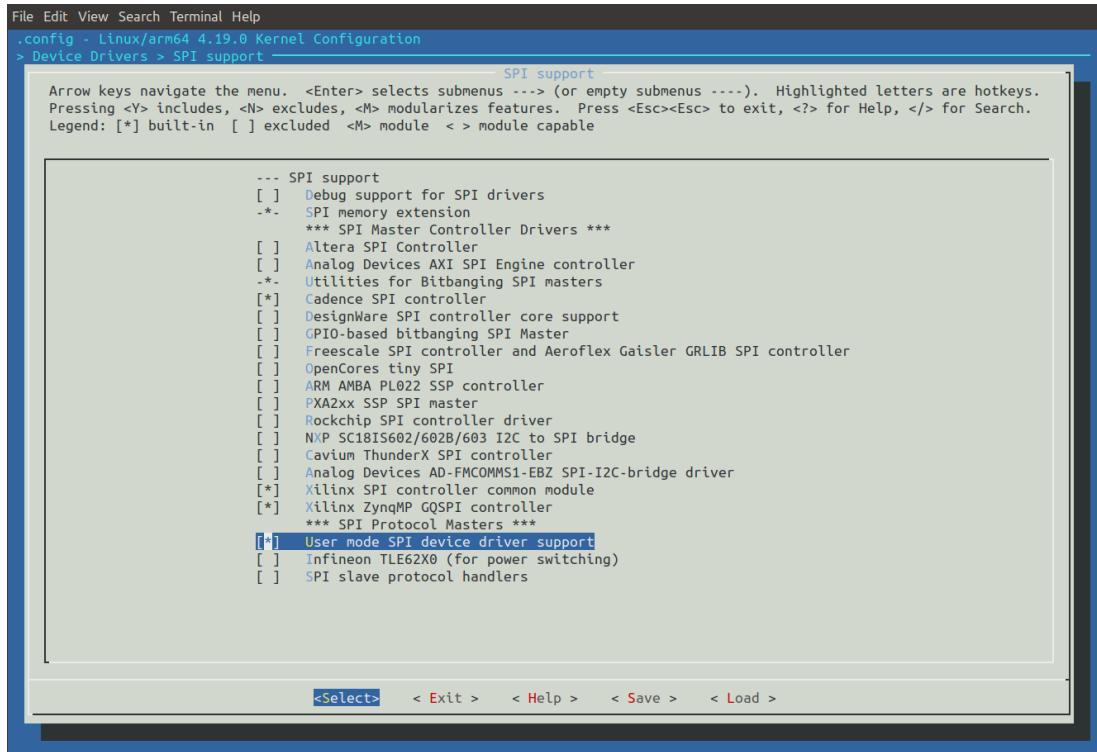

Figure 20. Enable User mode SPI device driver
- SPIDEV enabled under Device Drivers>SPI Support as described on Figure 20